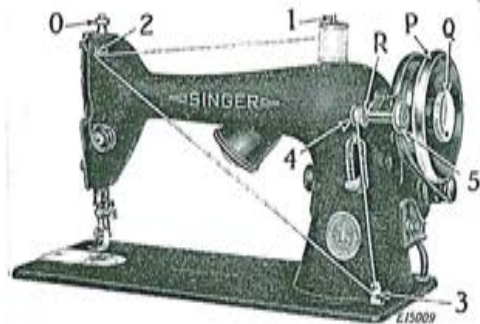

FIG. 5. MACHINE THREADED FOR WINDING THE BOBBIN
It is necessary to understand the stop motion (Q, Fig. 5) by which the balance wheel (P) can be
The end of the thread must be held by hand until a few coils are wound and should then be broken off. Fig. 5 shows the bobbin winder properly threaded and in position for winding. When sufficient thread has been wound upon the Bobbin, pull the bobbin winder pulley away from the balance wheel and remove the Bobbin from the spindle.
For ordinary family sewing, it is seldom necessary to change the pressure on the material. If sewing fine silk or flimsy material, lighten the pressure by turning the thumb screw (O, Fig. 5) on the top of the machine to the left so that it screws up. To increase the pressure, turn this thumb screw to the right, so that it screws down. The pressure should be only heavy enough to prevent the material from rising with the needle and to enable the feed to move the work along evenly. The heavier the material, the heavier the pressure; the lighter the material, the lighter the pressure.